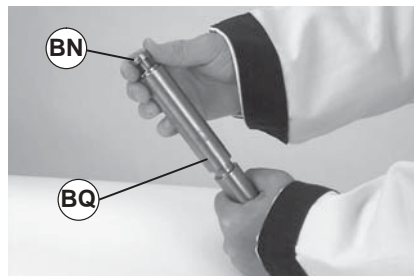

Figure 37
2. Slide bearing (part # 240338) (Figure 37, item BN) onto spindle (BQ).